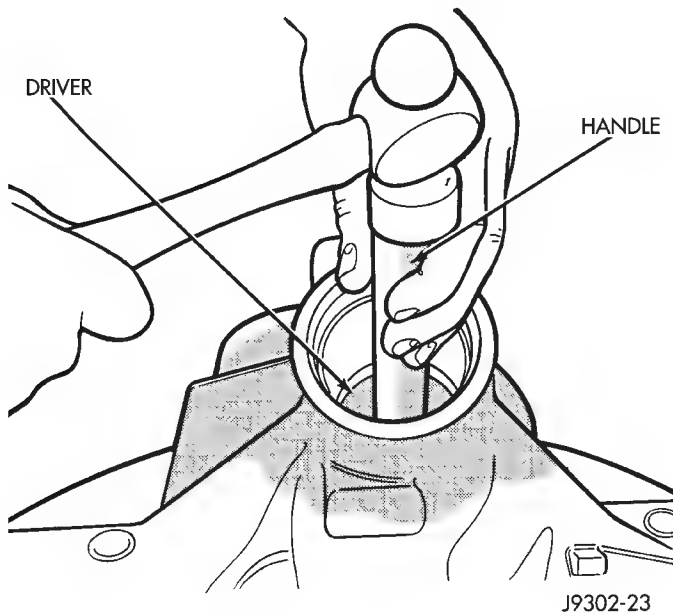

Fig. 35 Rear Bearing Cup Removal
(6) Remove the rear bearing cup from housing (Fig. 35). Use Remover D-149 and Handle C-4171.